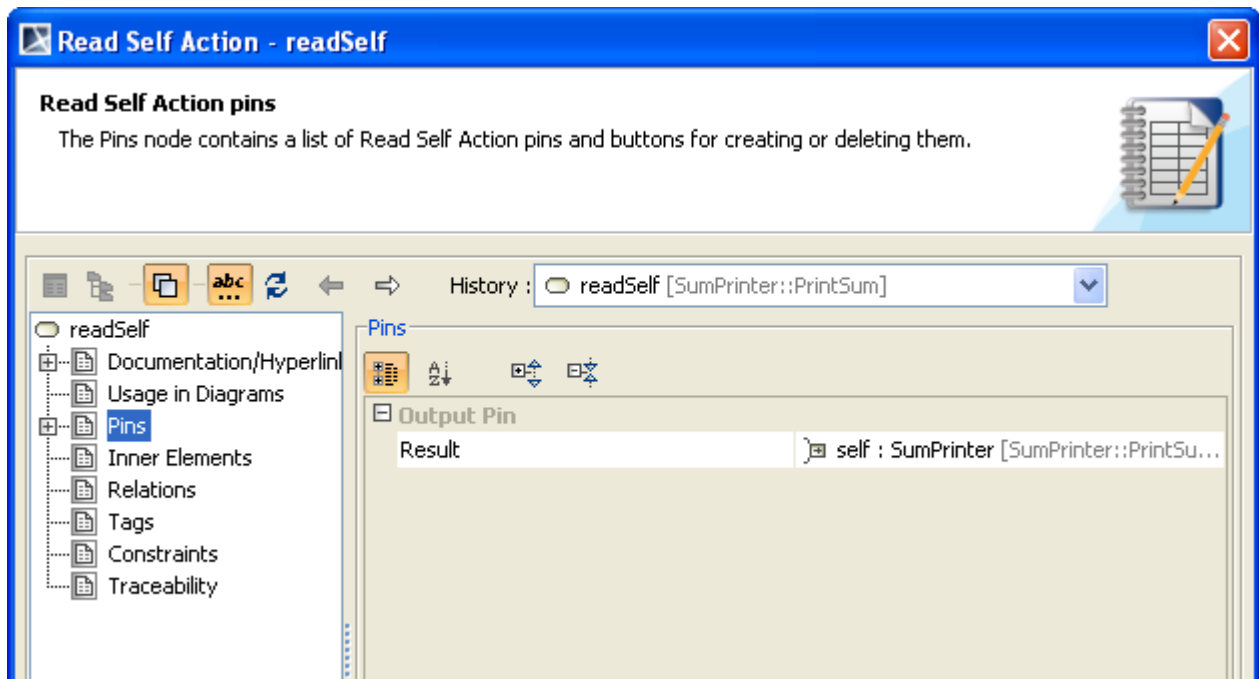

Figure 70 -- Adding Output Pin as a Result Pin of readSelf Action
4. Right-click the **readSelf** action to open its **Specification** dialog (Figure 70).